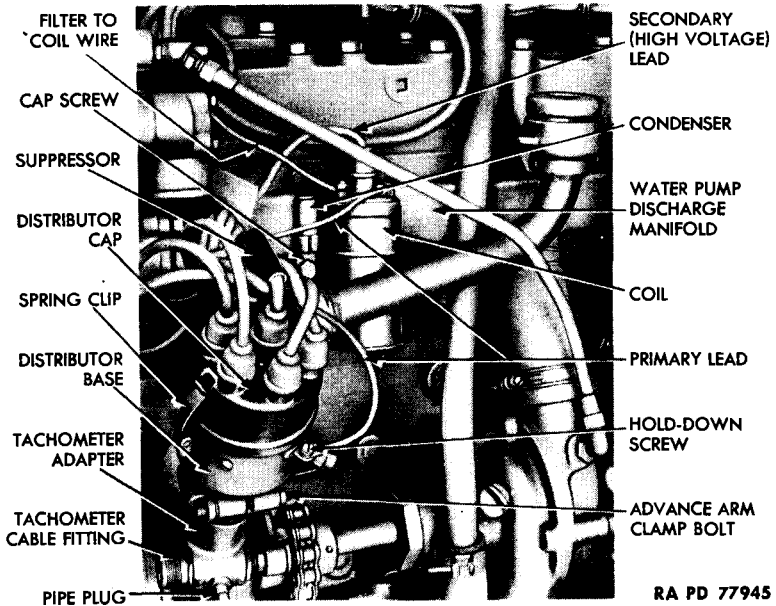

Figure 44 – Distributor and Ignition Coil Installed
(1) **DESCRIPTION** (fig. 44). An induction type coil is used to increase voltage for ignition purposes by use of secondary and primary windings on an iron core. The amperage is cut down in a ratio corresponding with the voltage increase. The coil is attached to the water pump discharge manifold on the left side of the engine adjacent to the front cylinder head, and is accessible through the floor board inset opening.
(2) DISCONNECT WIRES (fig. 44). Pull secondary lead from tower on top of coil. Remove both nuts and lock washers from low tension terminals on top of coil, and lift the three wires from the two terminals. NOTE: Tag wires to aid in assembly.
(3) REMOVE COIL FROM WATER PUMP DISCHARGE MANIFOLD (fig. 44). Remove the two cap screws and lock washers which hold coil to manifold, and lift coil and condenser from manifold.
(1) MOUNT COIL ON ENGINE (fig. 44). Place coil and condenser in position on water pump discharge manifold, and install the two lock washers and cap screws which attach coil and condenser to manifold.
(2) CONNECT WIRES (fig. 44). Place low tension wire from distributor on the coil terminal marked "+." Place low tension wire from
(2) REMOVE DISTRIBUTOR CAP (fig. 44). Unsnap both spring clips, and lift cap from distributor.
(1) DESCRIPTION (fig. 44). The distributor is mounted on left side of engine toward the front, and is accessible through left-hand splash shield opening. Its major components are base, drive shaft and
(1) **SET IGNITION TIMING** (figs. 44 and 46). Remove No. 1 spark plug and turn the engine over by hand until No. 1 piston comes up on the compression stroke. Continue to turn the engine slowly until the "DC" line on the flywheel registers with the timing line on the flywheel housing. Make sure the distributor points are clean, free of pits, and make good contact when closed. Using a dial indicator or wire feeler gage, adjust the points to 0.020-inch gap. Loosen cap screw and clamp bolt on the distributor advance arm. Move the pointer on the advance arm to the center of the scale, and lock in this position with screw. With the engine still on dead center, rotate the distributor in a counterclockwise direction until the points just break. Use a test light in checking this setting. Lock the clamp bolt after the setting is complete. See that the rotor brush is in position. Replace the
(2) **DISCONNECT WIRES** (fig. 44). Unsnap both spring clips, and lift distributor cap from distributor. Leave high tension wires attached to cap, and disconnect low tension primary lead wire from terminal on side of distributor.
(3) **DETACH DISTRIBUTOR** (fig. 44). Loosen advance arm clamp bolt. Remove hold-down screw, and lift distributor from tachometer adapter.
(1) **ATTACH DISTRIBUTOR TO TACHOMETER DRIVE** (fig. 44). Insert base of distributor into its boss in tachometer drive, and install hold-down screw.
(2) **TIME IGNITION** (subpar. b (1), above).
(3) **CONNECT WIRES** (fig. 44). Connect low tension primary wire to terminal on side of distributor, and install cap with attached wires on distributor.